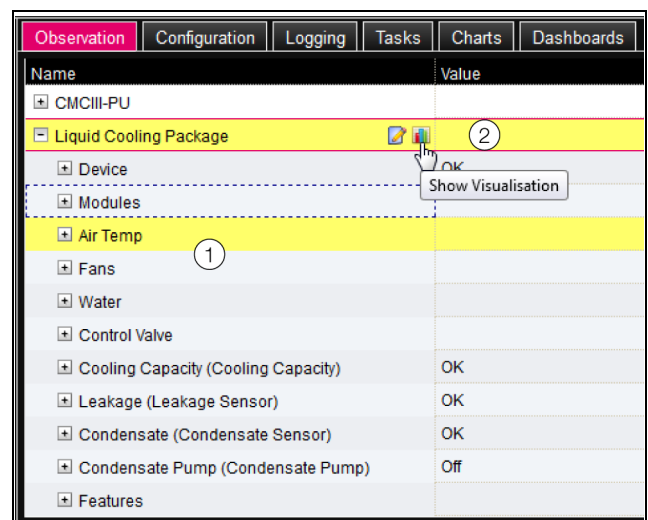

Fig. 115: Tree structure
If, after selecting the "Liquid Cooling Package" level, the subordinate entries "Device", "Air", "Water" etc. are displayed (fig. 115), you can switch to the graphical representation as follows:
- Press the coloured "Graphics" symbol after the "Liquid Cooling Package" entry in the form of a stylised diagram (fig. 115, item 2).
The display switches to the tree view (fig. 115) and the individual settings for the Liquid Cooling Package may be selected.